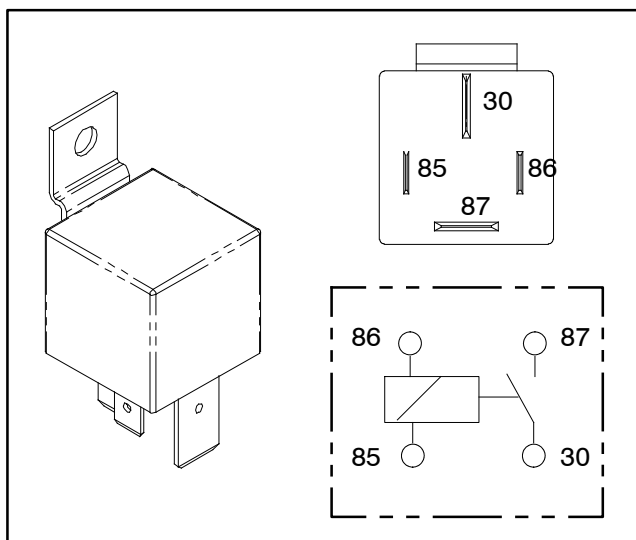

Figure 53
4. Verify coil resistance between terminals 85 and 86 with a multimeter (ohms setting) (Fig. 53). Resistance should be approximately **72 ohms**.